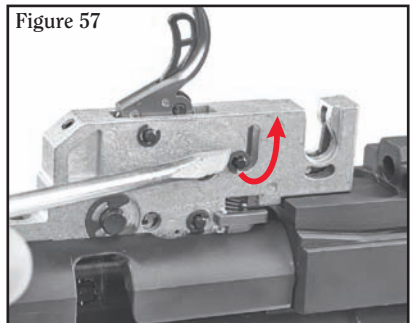

Figure 57
2. Release the cocking guide spring by depressing the pin and allowing it to move into the long portion of the "J" shaped slot. (See Figure 57.)